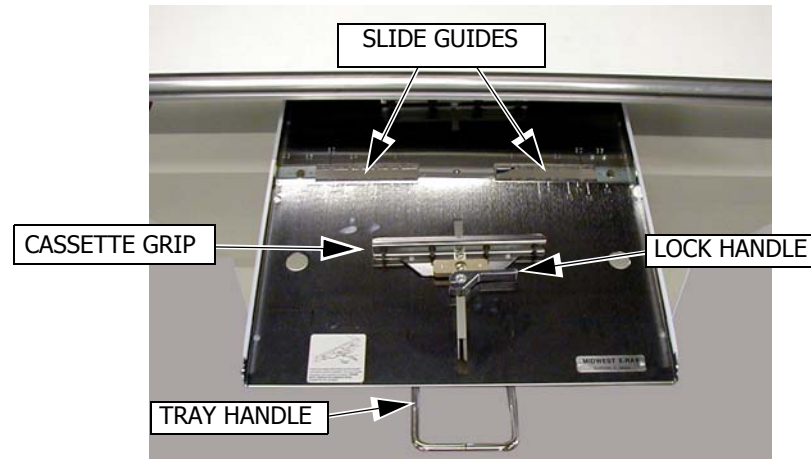

Figure 4-3. Quantum Cassette Film Tray
1. Pull the cassette tray from the Receptor Cabinet using the tray handle (see Figure 4-3).